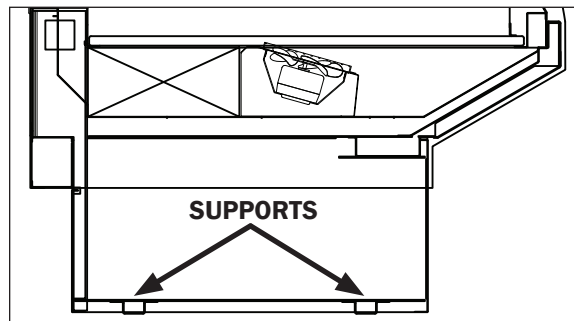

Fig. 1 Horizontal supports (SMD-R BAKERY)
7. Locate horizontal support positions along the chalk line (Fig. 1 & 2). Spot properly leveled shim packs at each support location.